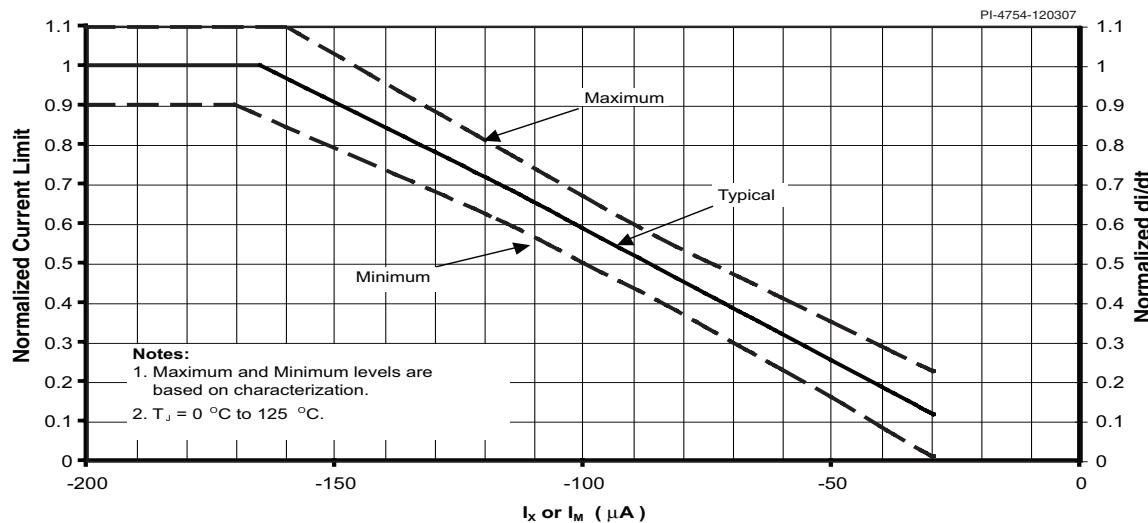

Figure 55a. Normalized Current Limit vs. X or M Pin Current.
- For externally adjusted current limit values, please refer to Figures 55a and 55b (Current Limit vs. External Current Limit Resistance) in the Typical Performance Characteristics section. The tolerance specified is only valid at full current limit.